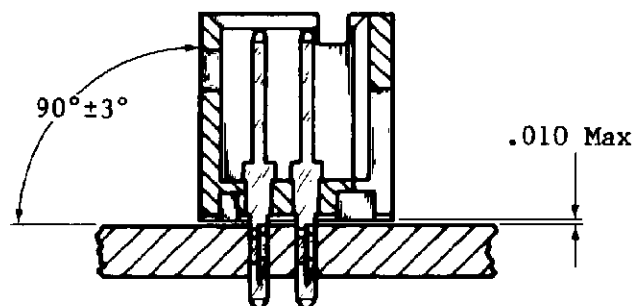

Fig. 6. Seated Header Assembly Requirements
4.8. Seated header assembly shall meet the requirements of Figure 6.